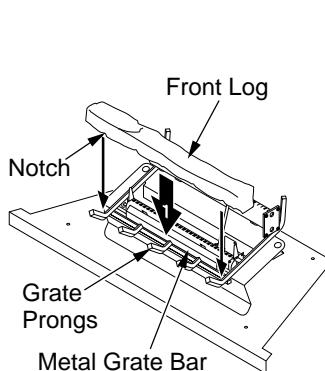

Figure 24 - Installing Front Log
1. Place front log on top of the grate. Make sure the notches in the bottom of the log fit over the grate prongs (see Figure 24). Push back of log flush with metal grate bar.